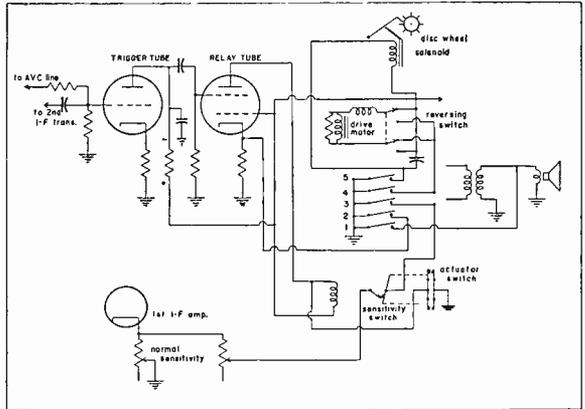
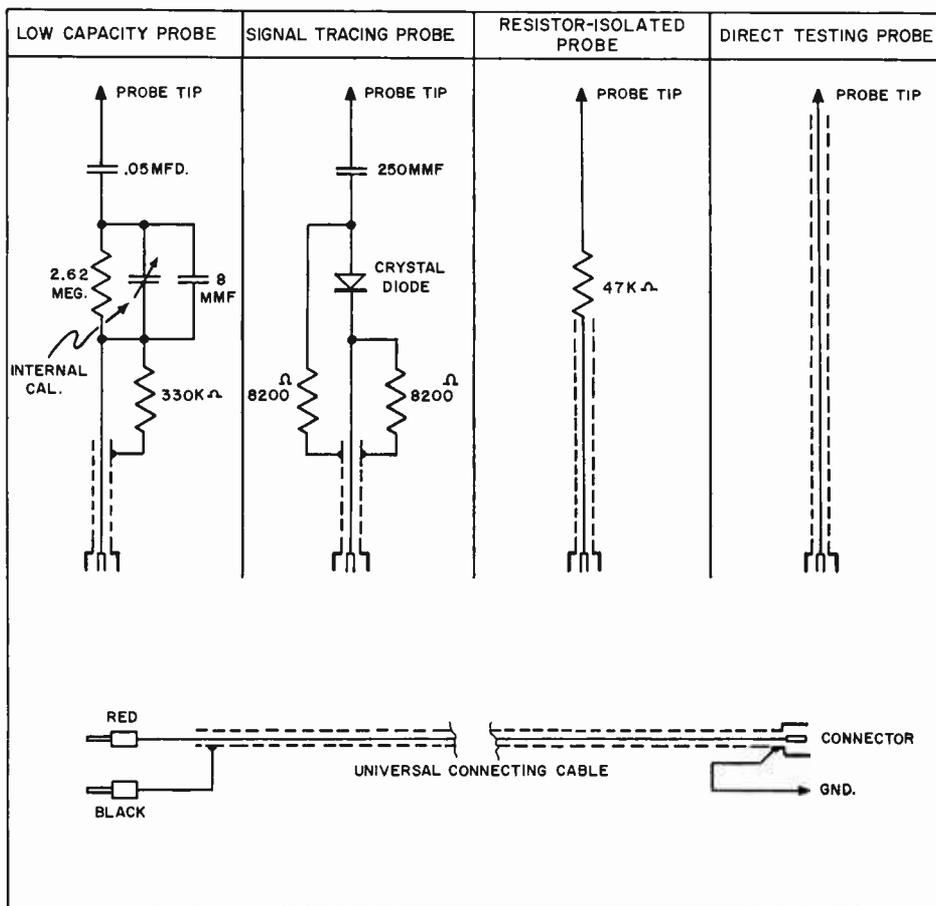
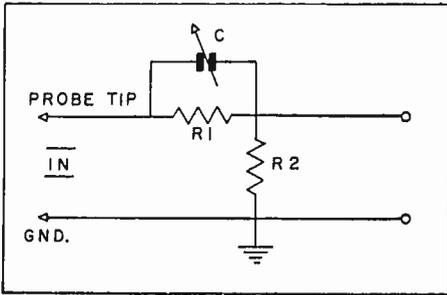

FIG. 4. Typical search tuner-motor driven.
FIG. 2. Schematic diagrams of the probes shown in Fig. 1.
FIG. 3. A low-capacity probe.
The grid of the trigger tube is supplied (as in Fig. 2) with a signal taken from the second i-f transformer which drives the grid positive as the tuner swings into a station causing the tube to conduct. A voltage taken from the AVC line delays the triggering action allowing the tuner to stop at the proper point. When the trigger tube conducts, current flowing through the plate resistor (see Figure 4) develops a voltage drop across it with the polarity shown. The negative voltage is fed to the grid of the relay tube by the coupling capacitor and reduces the current flowing through the relay tube to a value which is no longer sufficient to keep the relay energized. The relay "drops out" and the tuner stops.
Let's take a few typical troubles and run down some of the probable causes. Suppose the tuner fails to search when the actuator switch is pressed, indicating trouble in the starting circuit. As with any electronic circuit, the first step is to make sure power is being applied. In a circuit such as in Fig. 4, the battery must be connected with the proper polarity or the tuner will not operate. Perhaps the actuator switch is defective or the relay coil may be open. Make sure the solenoid draws the stop clear of the paddle-wheel. With the spring-operated type, the power spring may be broken or disconnected, or a defective limit switch or solenoid may be allowing the mechanism to stick at the high end of the band. With the motor type, there may be an open motor winding, the relay contacts may not be closing the motor circuit, or a defective reversing switch may be stopping the tuner at one end of its travel.
This set consists of four individually-labeled test probes, accompanied by a universal connecting cable, and supplied in a convenient plastic hang-up type of carrying case. Fig. 2 shows the schematic of each probe and identifies it.
As shown in Fig. 2, the low capacity probe consists of series capacitors and series and shunt resistors. The probe has been redrawn in Fig. 3 to show the function of the individual parts more clearly. Since the series .05 mfd capacitor serves only to block DC voltage when measuring at points containing AC and DC, it is not shown in Fig. 3. Because of its large capacity, its impedance is so low it appears as a short circuit to signal frequencies.
It is desirable that the attenuation factor of the probe be constant for low frequencies as well as high frequencies. This can be accomplished by making the time constant of the probe equal to the time constant of the scope input. To do this the small input capacity of the probe (C in Fig. 3) is made variable and is connected across a large resistance (R1 in Fig. 3). This capacitor (C) is then adjusted at the factory. The shunt resistor, R2 in Fig. 3, serves to stabilize the input impedance of the scope as the vertical attenuator is varied.
The demodulator or detector probe shown in Fig. 2 uses a simple series crystal-diode rectifier circuit. The output of the rectifier charges the capacitance of the coaxial cable, and the 8200-ohm bleeder resistor reduces the time constant of the circuit sufficiently so that effective demodulation is obtained. The 250-MMF input capacitor serves to block DC from damaging the